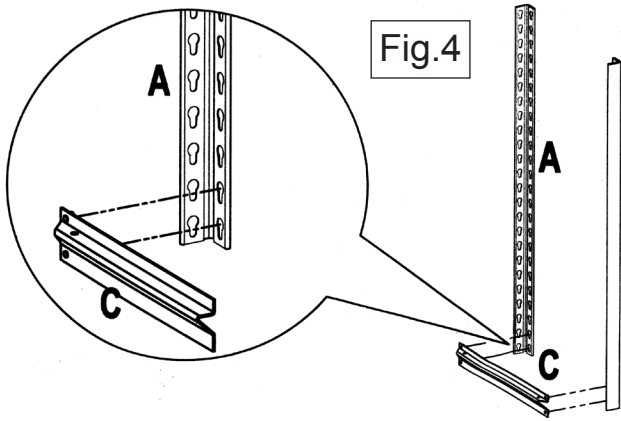

Fig.4
4.2 See Fig.4. Support two upright angle posts (A) in a vertical position ensuring that the keyhole slots are pointing downwards. Join them together at the base using a short 'Z' beam (C) ensuring that the shelf support is facing upwards. Tap the beam at either end, close to each angle post with a rubber mallet to ensure that the rivets are seated at the bottom of the keyhole slots.